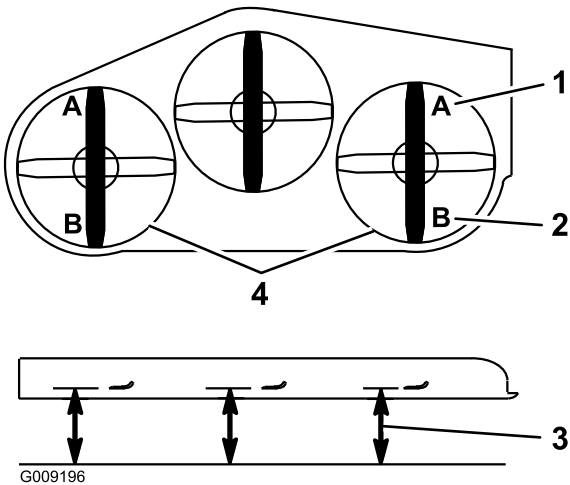

Figure 93
9. On both sides of the deck, measure from the level surface to the front tip of the blade (Position A). The measurement should read 7.6 mm (3 inches); refer to Figure 93.
15. On both sides of the deck, measure from the level surface to the back tip of the blade (Position B). The measurement should read 8.3 cm (3-1/4 inches); refer to Figure 93.